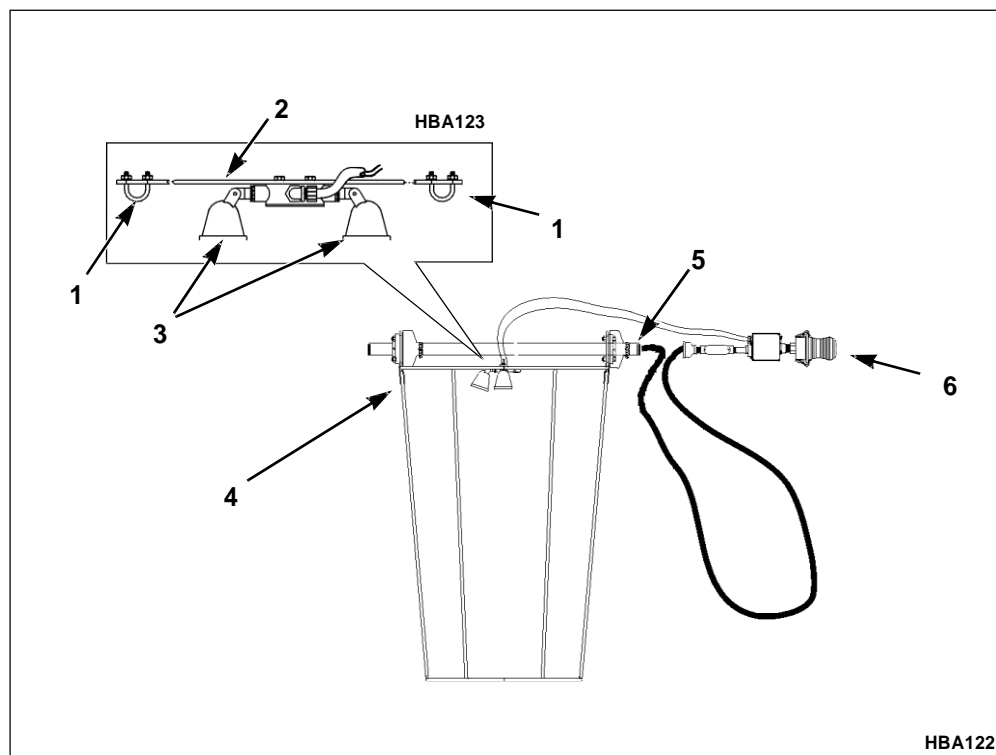

Figure 13. Installing the Internal Lighting Kit
2. Remove the two U-bolts from the lightbar, see Figure 13.
3. **NOTE: Place the lightbar across the center of the large end of the basket, see Figure 13. The floodlights must point into the basket. Position the bar horizontally, (parallel to the ground).**
4. Place the two U-bolts around the basket frame and back through the holes in the lightbar, see Figure 13.